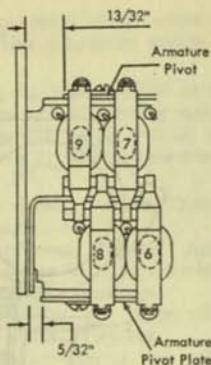

Figure 23. Armature Pivot Adjustment
1. Position the armature pivot strip as shown in Figure 23 to center the armatures over the cores.